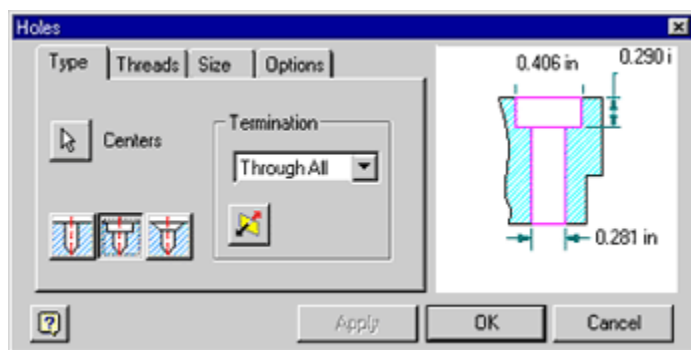

Figure 9: Hole options.
2. Select the Countersunk hole option and enter values to match Figure 9.